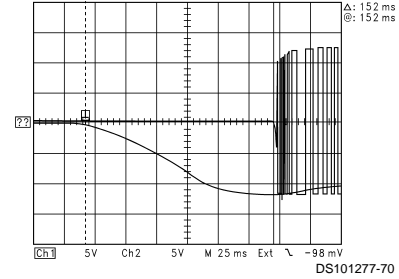

FIGURE 3. Startup Timing Diagram
Start Up Sequence and Timing: The LM4651 has an internal soft start feature (see Figure 3) that ensures reliable and consistent start-up while minimizing turn-on thumps or pops. During the start-up cycle the system is in standby mode. This start-up time is controlled externally by adjusting the capacitance (C_{START}) value connected to the START pin. The start-up time can be controlled by the capacitor value connected to the START pin given by Equation (1) or (2):